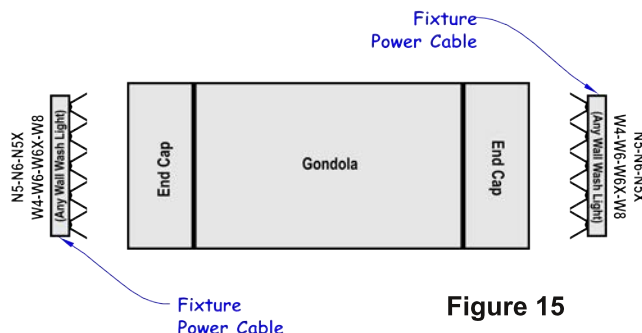

Figure 15
- Rows with Wall Wash lights must have the Fixture Power Cable installed so that the light is correctly aimed at the wall or other feature. The Fixture Power Cable must be installed in the correct end of the Row or Trunk to accomplish this. Please refer to Figure 15.